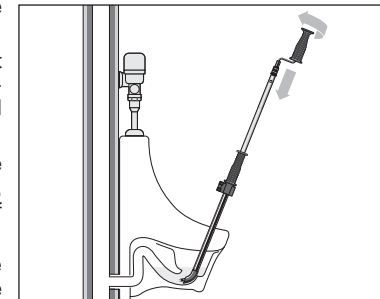

Figure 5 – Operating the Auger
6. Rotate the cable in the Forward (clockwise) direction while pushing the crank handle or drill toward the guide tube to advance the cable into the drain (Figure 5). To negotiate urinal traps and other tight bends: